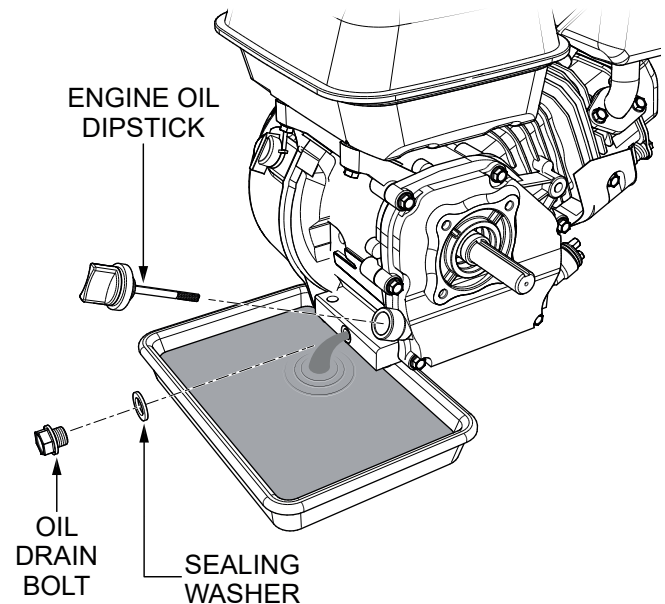

Figure 31. Draining The Engine Oil
1. Remove the **engine oil dipstick**, **oil drain bolt**, and **sealing washer** (Figure 31), and allow the oil to drain into a suitable container.